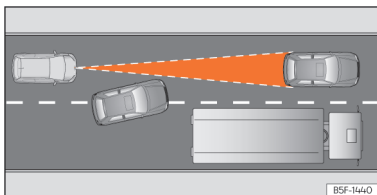

Fig. 140 Vehicle changing lanes.
- Vehicles that move into your lane, a short distance from your vehicle >>> **Fig. 140**.